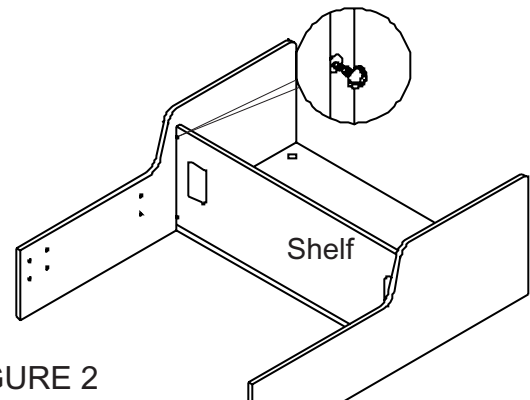
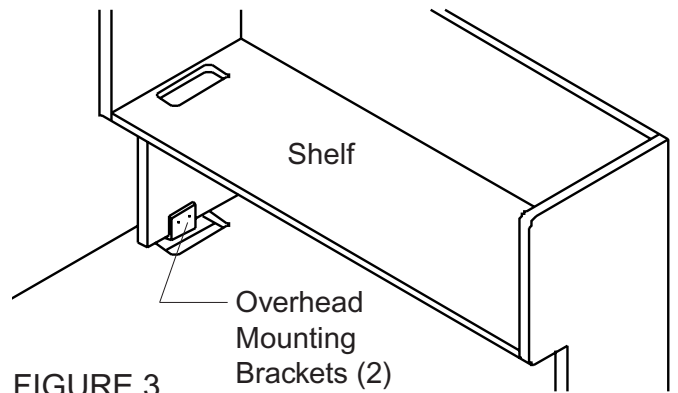

FIGURE 2
FIGURE 3
6. The shelf sides have slots that fit onto screws in the upright. Slide shelf into position and tighten screws. (Figure 2)
7. Insert (4) #10 x 5/8" screws through the holes in shelf and into predrilled holes in back and tighten.
8. **Stand the shelf assembly up onto the work surface.** Align (2) overhead mounting brackets with predrilled holes in uprights and work surface legs, insert (4) #10 x 5/8" screws and tighten. (Figure 3)